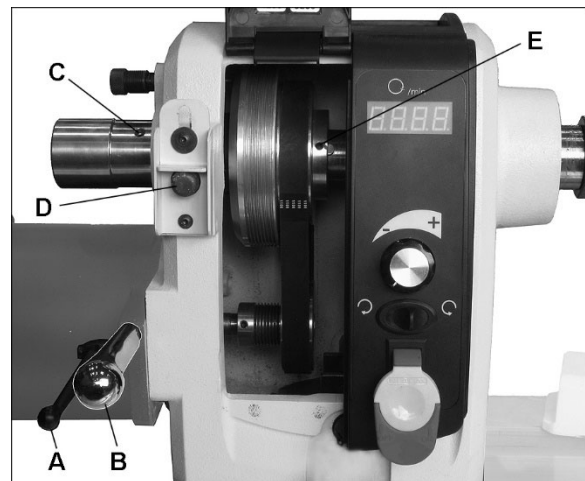

Figure 9-12
The motor and spindle pulleys are aligned with each other by the manufacturer, but if any service is performed that affects their alignment it is very important that they be realigned. Engage spindle lock, loosen two set screws on spindle pulley (E, Figure 9-12) with 3mm hex key, and slide spindle pulley into proper position. Retighten set screws, and disengage spindle lock.
See Figure 9-12.
2. Loosen pivot lock handle (A, Figure 9-12) and lift up tension handle (B) to raise motor.
3. Tighten pivot lock handle (A) to secure motor in raised position.
5. Loosen two set screws on handwheel (C).
6. Engage spindle lock (D) and unscrew handwheel from spindle (left-hand threads, clockwise to loosen).